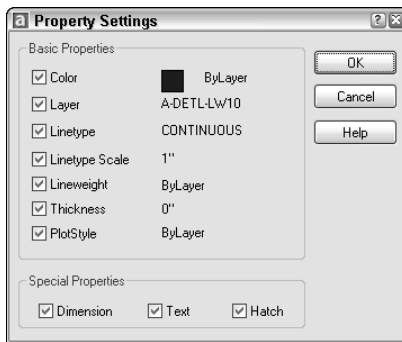

Figure 11-33: The Property Settings dialog box
You can now match polyline and viewport properties. These properties are matched by default, although you can specify which properties you want to match in the Property Settings dialog box. See Figure 11-33.
4. If you want to match only some of the object's properties, right-click and choose Settings to open the Property Settings dialog box, shown in Figure 11-33. Uncheck all the properties you don't want to match and click OK. AutoCAD returns you to the same prompt as before. Select the object(s) you want to receive the matching properties, that is, the destination objects(s).